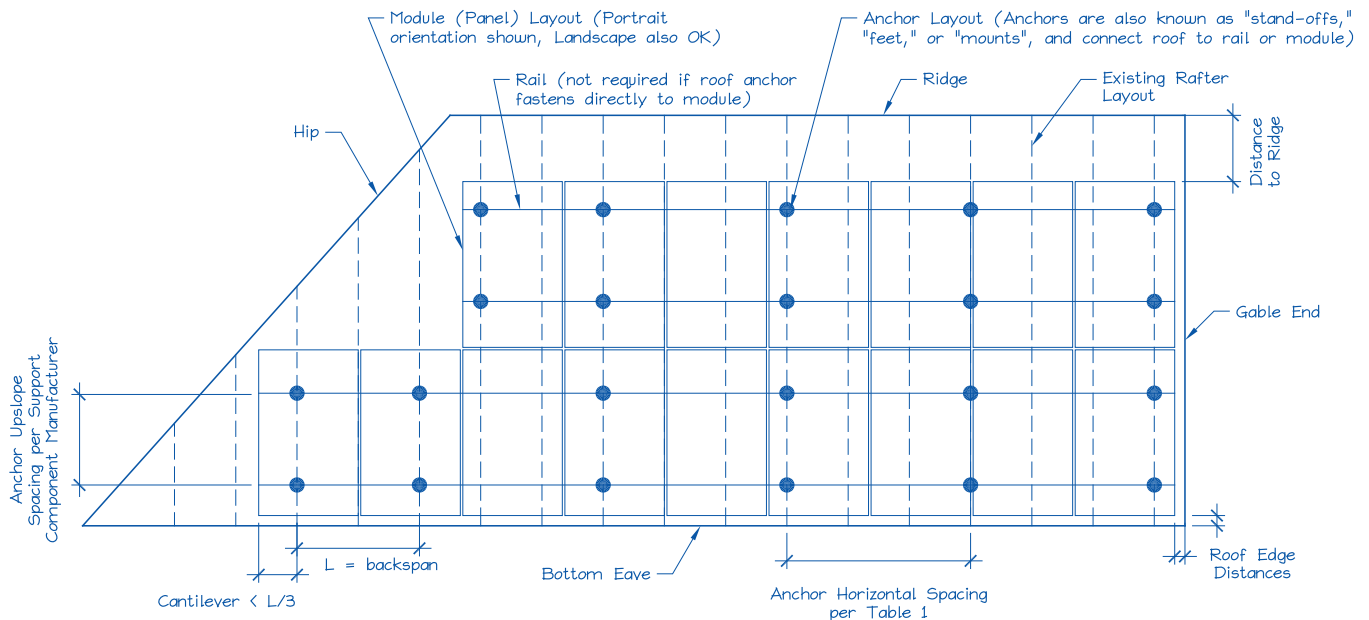

Figure 2. Sample Solar Panel Array and Anchor Layout Diagram (Roof Plan).
E. Is a roof plan of the module and anchor layout attached? (see Figure 2)
- 1) Proposed anchor horizontal spacing (see Figure 2): 6 _____' - 0 _____" (ft-in)
1. Anchors are also known as "stand-offs", "feet", "mounts" or "points of attachment". Horizontal anchor spacing is also known as "cross-slope" or "east-west" anchor spacing (see Figure 2).